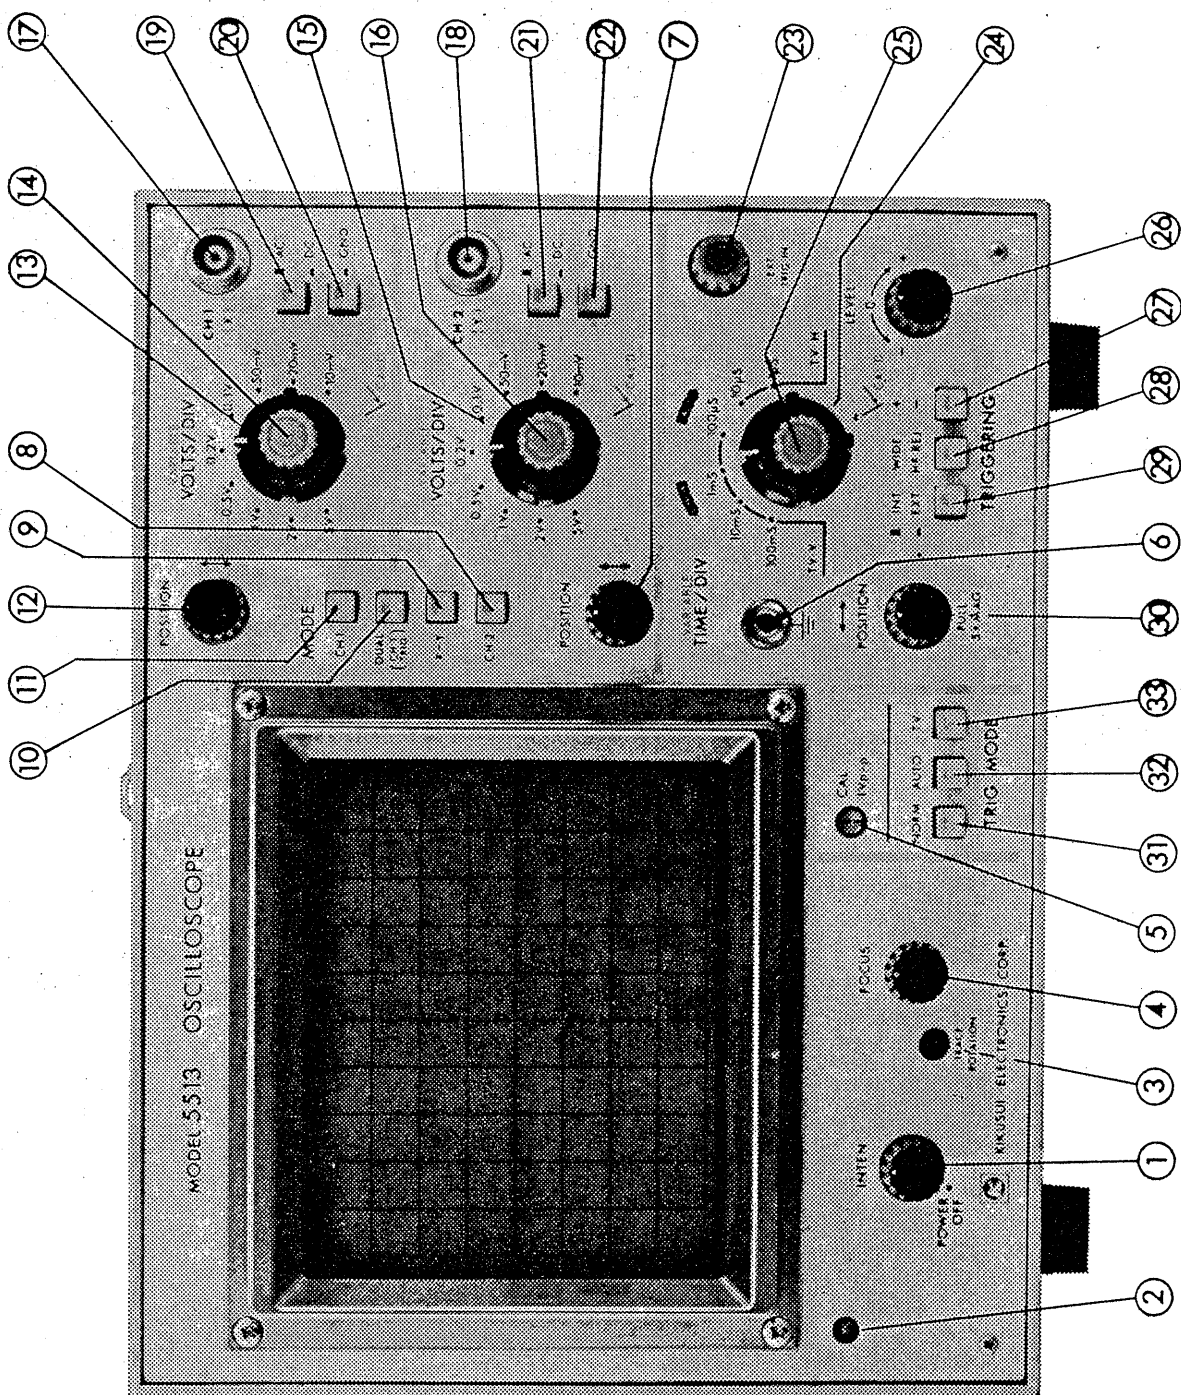

Fig. 1
3.1 Explanation of Front Panel (See Fig. 1)
4.1 Preliminary Procedure (See Fig. 1)